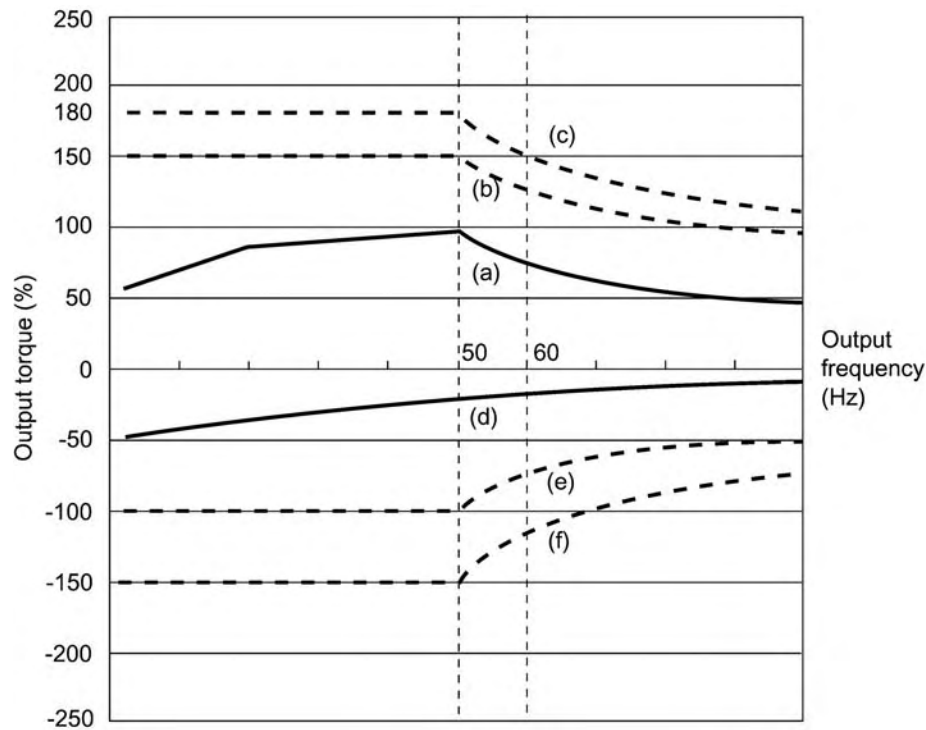

Figure 7.1 Output Torque Characteristics (Base frequency: 50 Hz)
Figures 7.1 and 7.2 graph the output torque characteristics of motors at the rated output frequency individually for 50 Hz and 60 Hz base. The horizontal and vertical axes show the output frequency and output torque (%), respectively. Curves (a) through (f) depend on the running conditions.
(1) Continuous allowable driving torque (Curve (a) in Figures 7.1 and 7.2)
(2) Maximum driving torque in a short time (Curves (b) and (c) in Figures 7.1 and 7.2)
(3) Starting torque (around the output frequency 0 Hz in Figures 7.1 and 7.2)
(4) Braking torque (Curves (d), (e), and (f) in Figures 7.1 and 7.2)